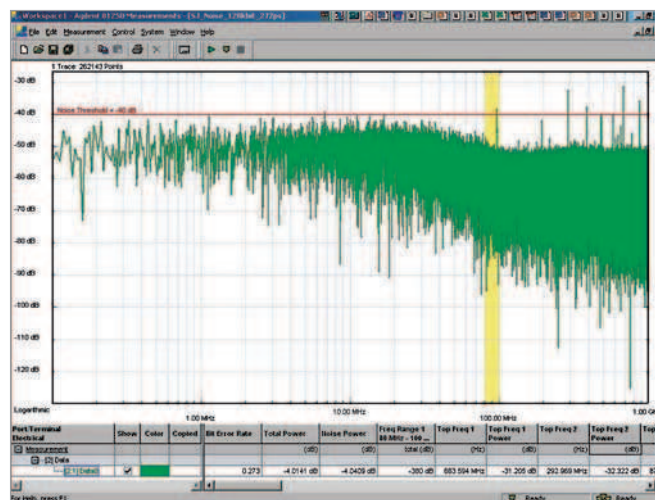

Figure 11b. Jitter transfer of a CDR with a corner frequency of approximately 40 MHz
This measurement is different from all the above because the sample point is unusually set exactly to the crossing point of the eye and because it is post-processing the captured error data utilizing FFT, to extract the desired result, i.e. the embedded jitter spectrum. This is extremely helpful for R&D to separate deterministic components from the Random Jitter (RJ) “noise”-floor and by this pinpointing e.g. sources of undesired crosstalk. Using this measurement with pass/fail limits applied during manufacturing test it ensures that certain known contributory jitter frequencies do not increase above a safe limit. You can also measure the frequency response of a CDR or a PLL’s in one shot, by applying white random jitter RJ on the ref clock or the incoming data stream (see figure 11b).